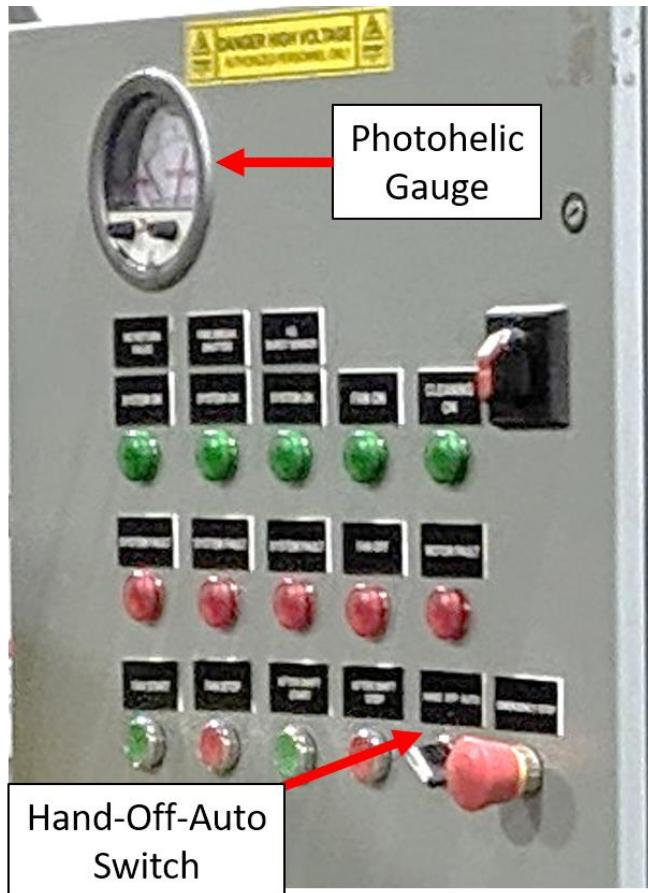

Figure 13 - Dust Collector controls cabinet
- Leave the Hand-Off-Auto switch on the Dust Collector control panel in the Hand position (**Figure 13**). If you do not, the automatic cleaning feature of the dust collector will not work.